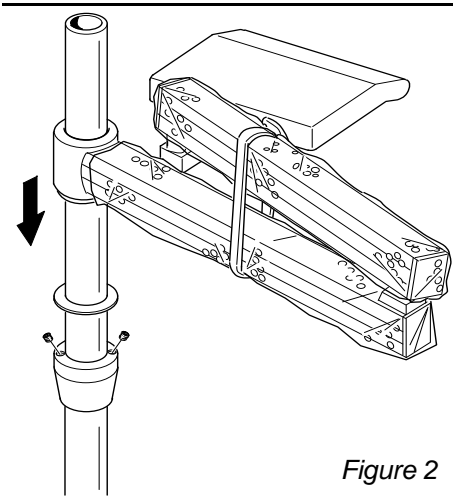

Figure 2
- A. Follow these instructions if your system came with a 40" post and a post mounted flex arm (Figure 2).